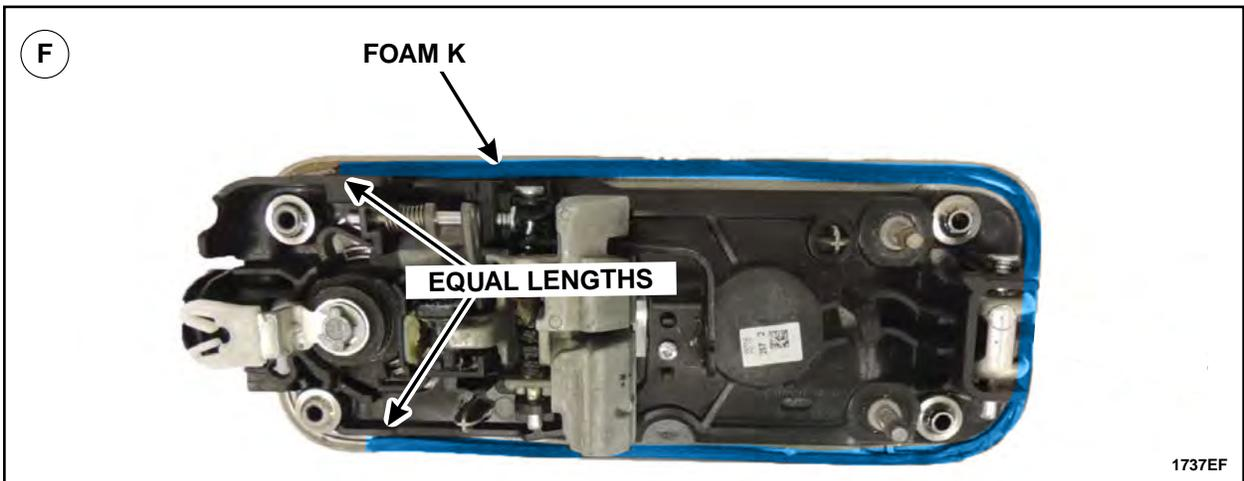

FIGURE 95
- F. Without stretching the foam adhere it to the exterior door handle ensuring that both sides of Foam K are of equal length once secured. See Figure 95.